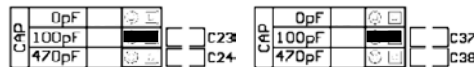

Figure 5: Left and right channel jumper banks default setting for capacitance load adjustments
There are three (3) different settings available for setting the capacitive load; 0pF, 100pF and 470pF for the left channel and right channel (refer to figure 5).